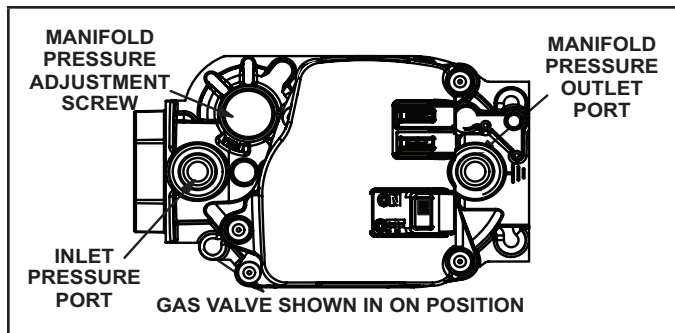

Figure 2
Operating the Gas Valve (Figure 2)
- 6 - Move switch on gas valve to OFF. Do not force. See figure 2.
- 8 - Move switch on gas valve to ON. Do not force. See figure 2.
- 4 - Move switch on gas valve to OFF. Do not force. See figure 2.